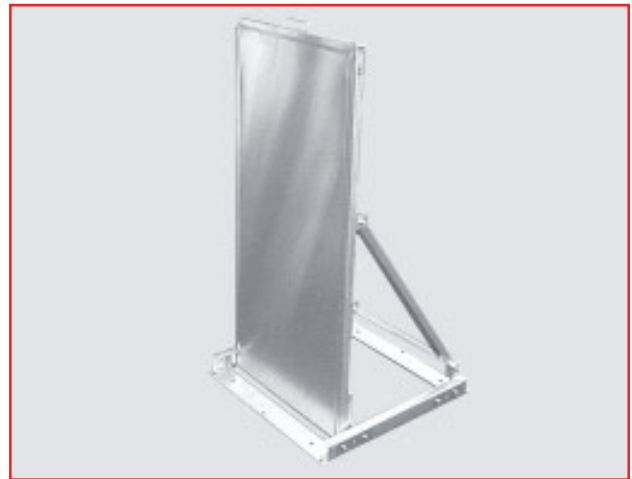

Figure 3. Table Unfolded
2. Pull on outward on the locking handle and unfold the table (Figure 3).